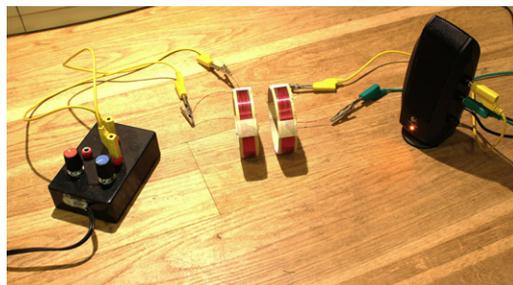

Figure 8. Demonstrating wireless energy transfer.
- Demonstrate wireless energy transfer! (Or to show how a transformer works, and why having a core is a good idea.) Drive a coil of wire from the signal generator, attaching a second coil to the computer using the input device (figure 8). Placing the coils near to each other it is relatively simple to show that energy is being transferred from one coil to the other without wires. Putting a piece of iron bar through the coils immediately causes an increase in amplitude, as would be expected, and a discussion can then be had